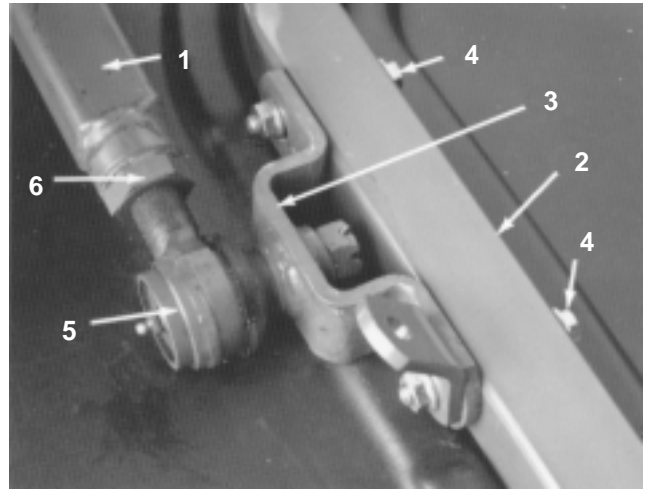

Figure 20
to the castor arm on the cutting unit (Fig. 20). Now the helper can carefully allow the push arm to move upward, which will gradually release the 150 pounds (68 kg) of spring load.
5. Have another person carefully push down on the left push arm until the holes in the ball joint mount line up with the holes in the castor arm (Fig. 20). Immediately slide a 4 x 4 in. block of wood between the top of the push arm and the underside of the chassis.